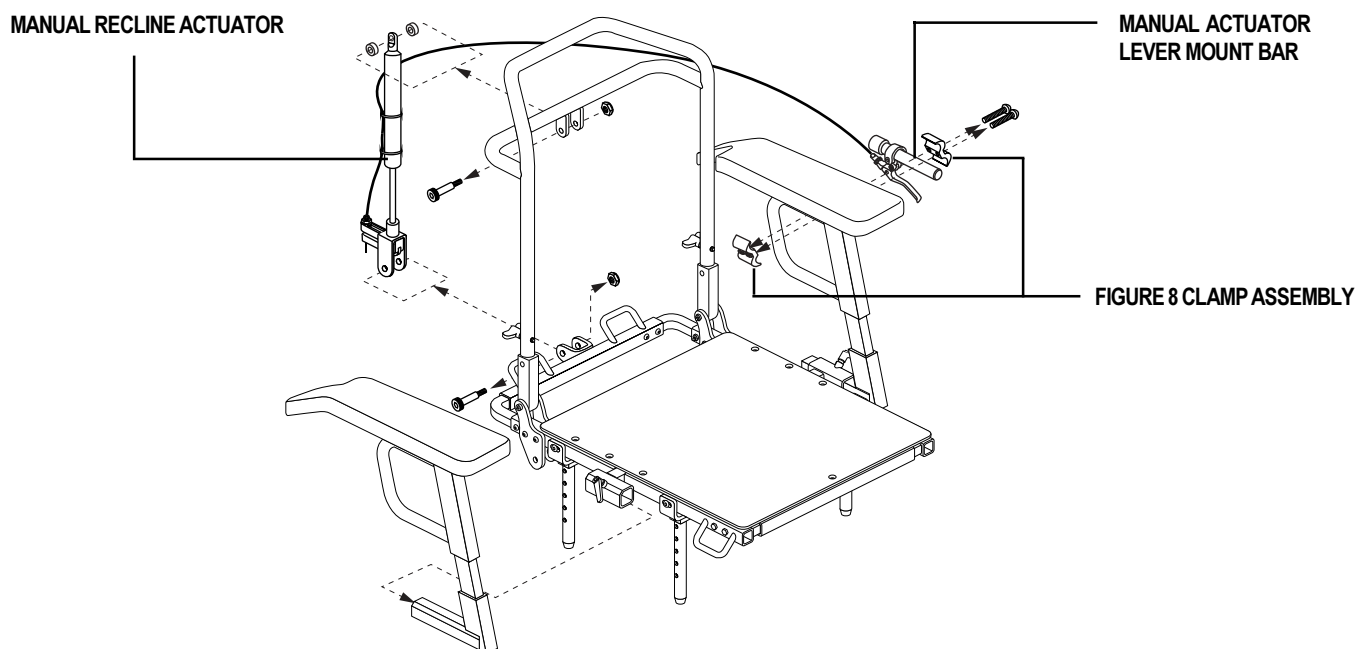
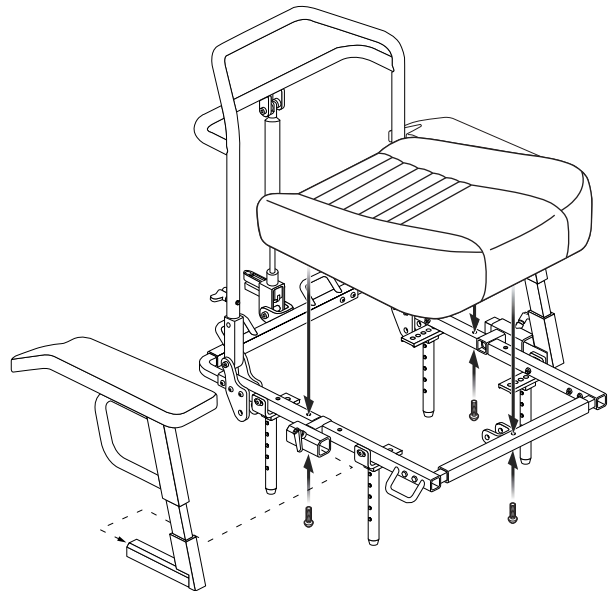

Figure 1. Manual Recline Actuator/Brake Lever Removal
Figure 8. Install the Comfort Cushion Seat Base
2. Remove the shoulder bolt, nylon spacers, and the Nylock nut from the top of the manual recline actuator using the hex key and the open-end wrench. See figure 1.
1. Remove the button head screws that hold the figure 8 clamp assembly and the brake lever to the armrest. See figure 1.
4. Install the comfort cushion seat base with the three (3) button head screws using the 5/32-in. hex key. One screw mounts through each side rail weldment, and the third screw mounts through the front rail weldment. See figure 8.
1. Loosen the two (2) button head screws on the figure 8 clamp assembly located on the armrest.